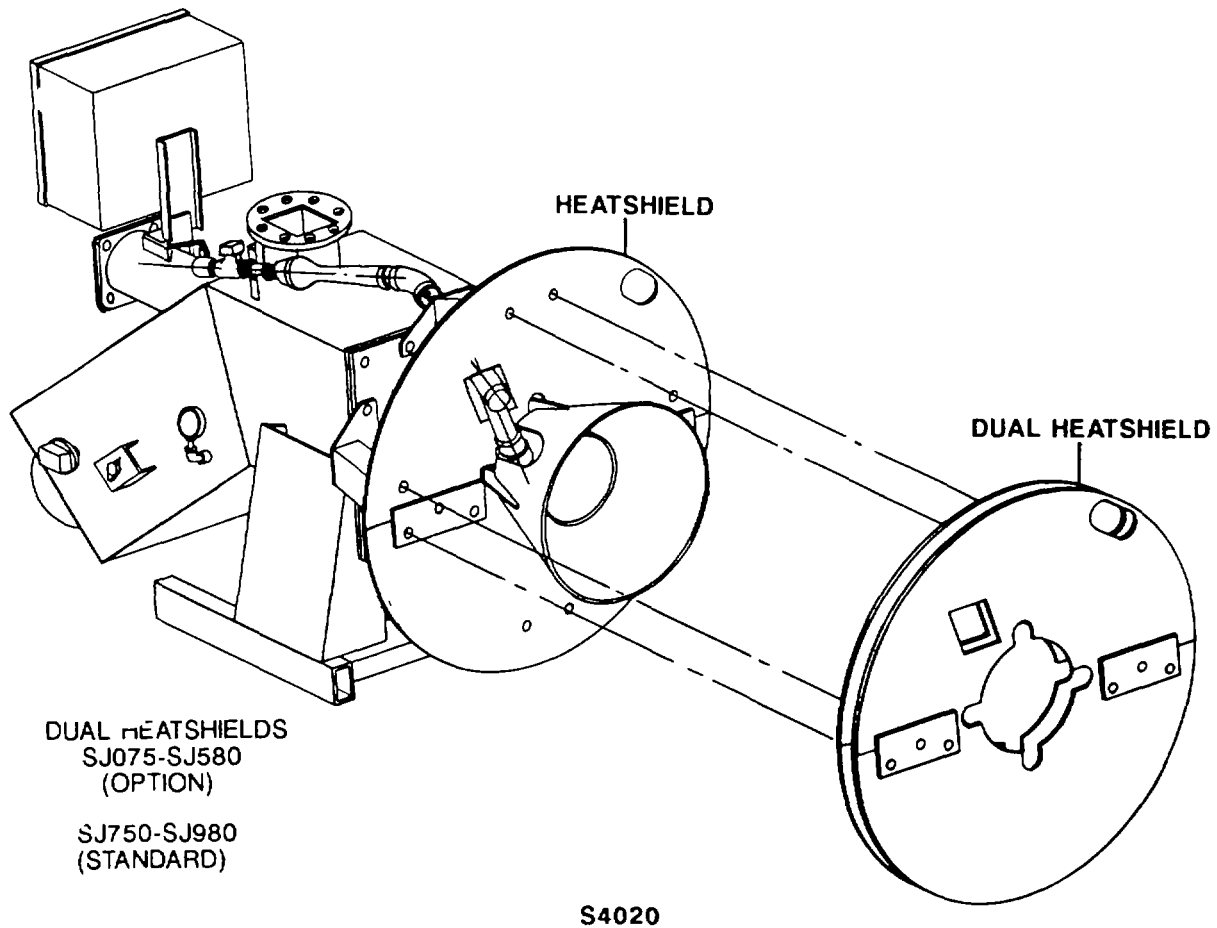

Fig. 4-Installation of Dual Heatshields
4. Optional Dual Heatshield - Install the two sections of the optional dual heatshield, if applicable, as shown in fig. 4.